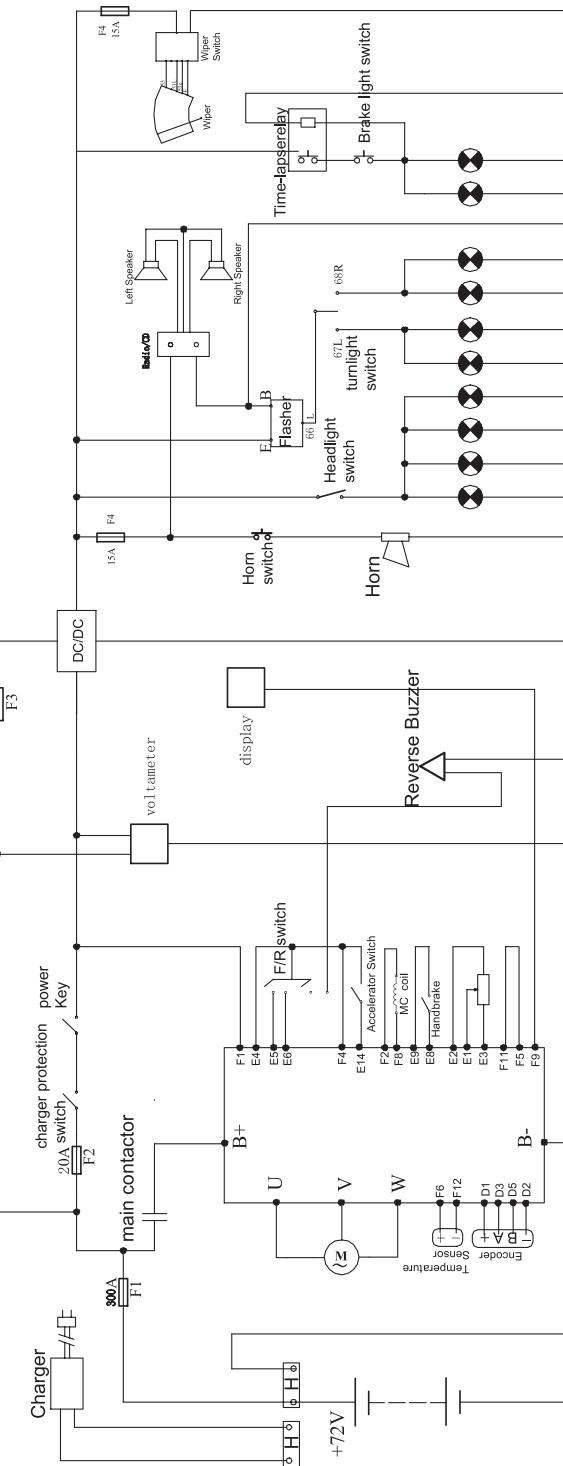

FIG3
- 3) Wiring Diagram of AC (72V, 7.5KW) automatic drive System (FIG.3)